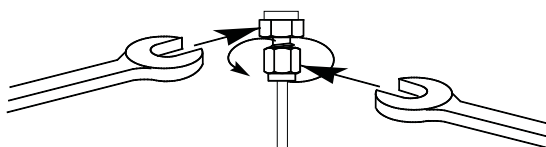

Figure 56. Final tightening
- 8 For 1/8-inch Swagelok fittings, use a pair of 7/16-inch wrenches to tighten the fitting 3/4 of a turn. See **Figure 56**.
For 1/4-inch fittings, use a pair of 9/16-inch wrenches to tighten them 1-1/4 turn, as shown in **Figure 56**.